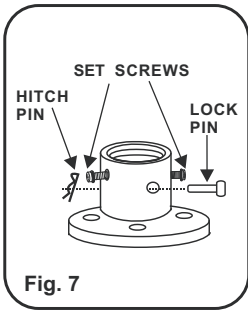

Fig. 7
Step 2. Loosen the two set screws and remove the hitch pin and lock pin from the top coupling of the motor assembly.(Fig 7)